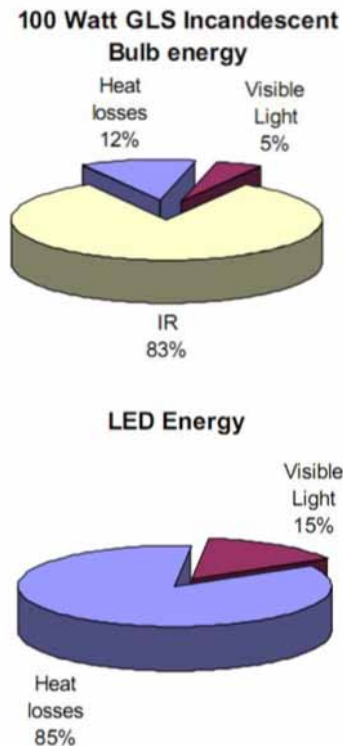

Figure 1: Power Usage of LED and Incandescent Light Bulb, [1]
LED lighting is one of the fastest growing market sectors across the globe. There are two primary areas that make LED's attractive as the replacement for standard lighting that we have enjoyed for decades. These are: (1) energy savings and (2) easier control in managing the response of the light. The energy savings is certainly attractive and has become the strongest driver behind the LED appeal. As shown in Figure 1, on the visible light range, an LED is about three times more efficient than the comparable incandescent light.